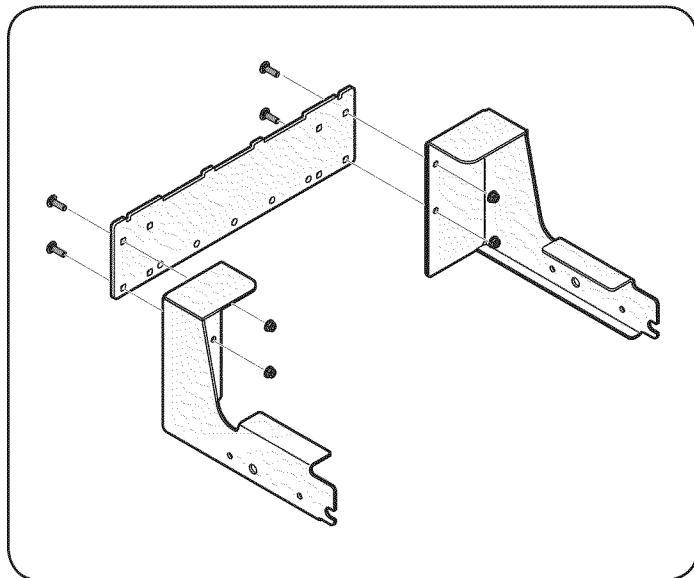

Figure 1
To assemble the bagger mounting assembly, locate the mounting assembly parts, as shown in Figure 1, and follow these steps:
- Attach the two hitch side brackets to the rear attachment bracket using four 710-0276 carriage bolts and 712-04063 flange lock nuts from hardware pack 689-00320. See Figure 1.